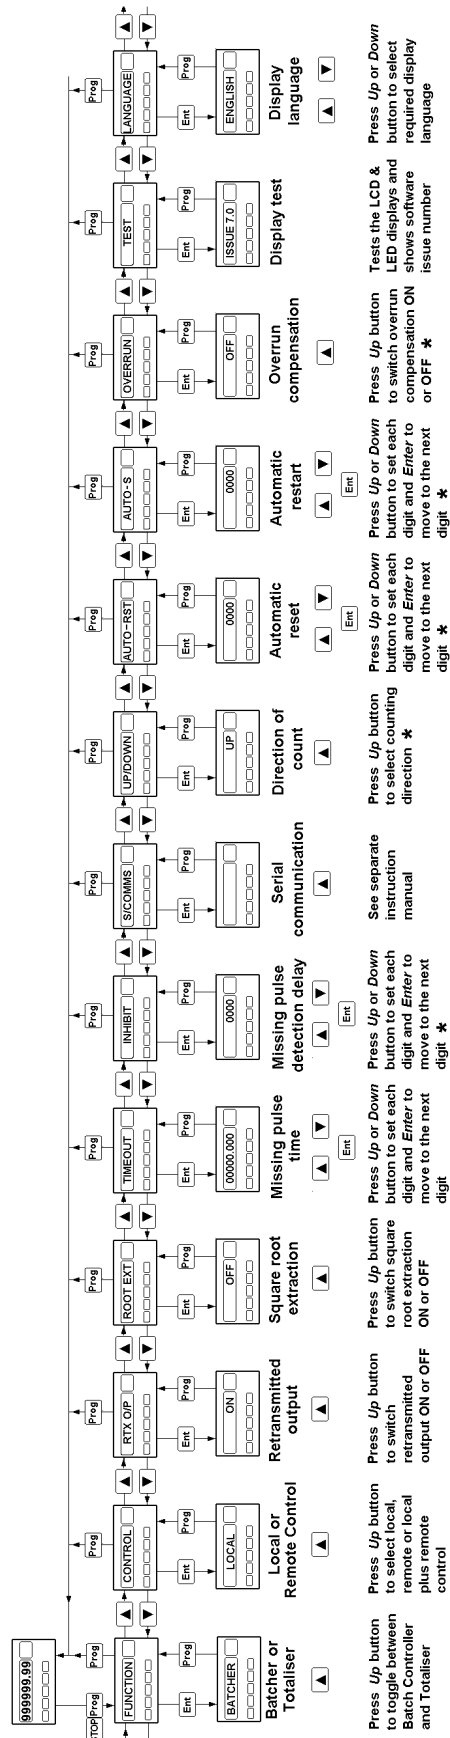

Fig 18 Mode parameter menu
The three programme menus are described in the following sections and are shown diagrammatically in Figs 18, 19 and 20. Each section of this manual starts with a brief summary of all the parameters within the menu cross referenced to full descriptions later in the section. This simple menu driven system enables most adjustments to be made without repeated reference to this manual.
9.3 Mode parameters see Fig 18
Fig 18 shows a diagrammatic representation of the mode parameter menu and the method of moving between the parameters.